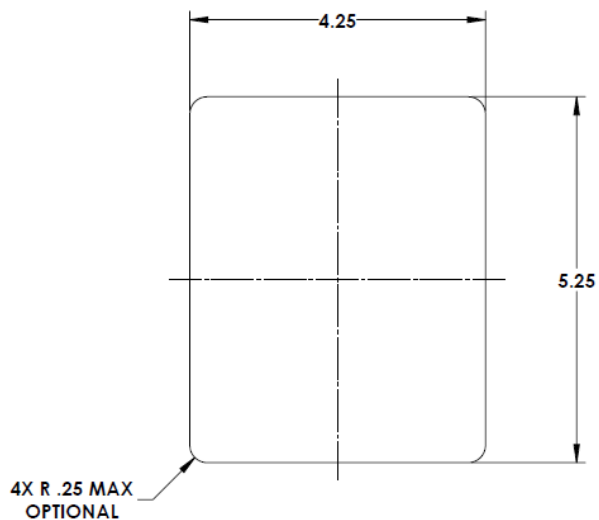

FIG. 1
- 1- Remove the finish cover plate from the Power unit(s) (A). Save the screws (C) for use later.
- 2- Determine the power units mounting location and prepare the surface (FIG.1).